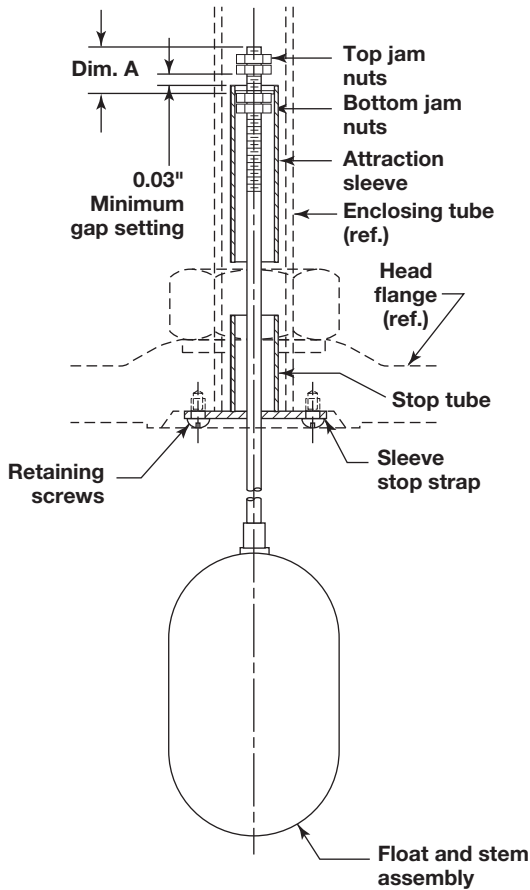

Figure 10
NOTE: New float and stem kits are supplied unassembled. For standard jam nut settings (dimension A) refer to Figure 10 and Table 1.
- Set attraction sleeve per dimension A as shown in Figure 10.